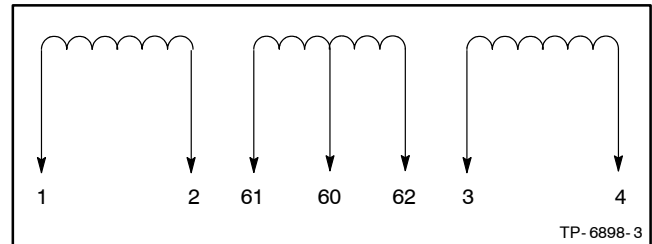
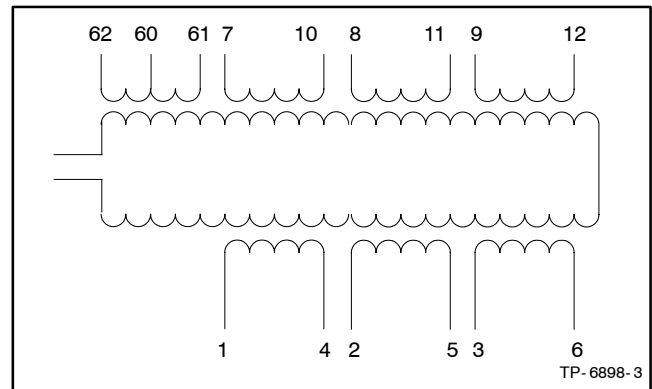

Figure 10-10 Alternator Stator Leads (Single Phase)
Figure 10-11 Alternator Stator Leads (Three Phase)
leads on three-phase models. Leads 60, 61, and 62 are the auxiliary power winding leads. Refer to the schematic in Figure 10-10 or Figure 10-11 when performing the following tests.
4. Disconnect all the stator leads to isolate the windings. To check the stator continuity, set the ohmmeter on the R x 1 scale. Check the stator continuity by connecting the meter leads to the stator leads as shown in Figure 10-10 for single phase or Figure 10-11 for three phase. See Figure 10-12 for single-phase or Figure 10-13 for three-phase continuity test results. Perform the stator tests on all the stator windings.